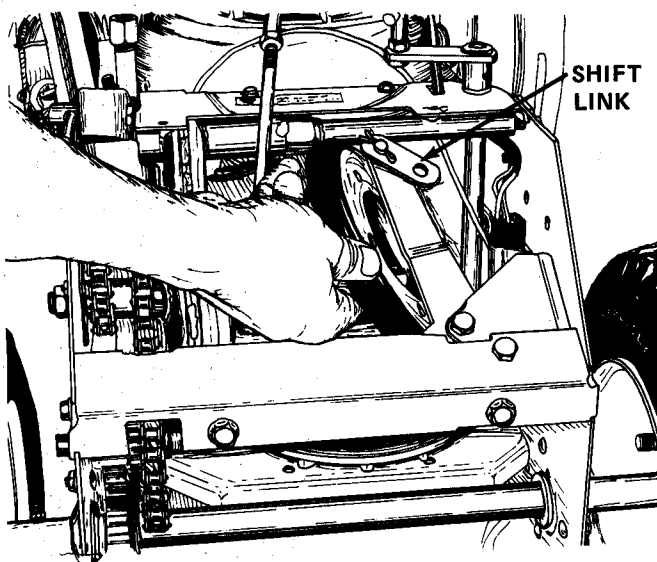

FIGURE 12
2. Place the speed selector in FIRST position. Push forward on the clutch lever to hold the friction wheel while the five bolts securing the friction wheel to the hub are loosened. Remove the five bolts, shift to THIRD position and disconnect the shift link, See Figure 12.